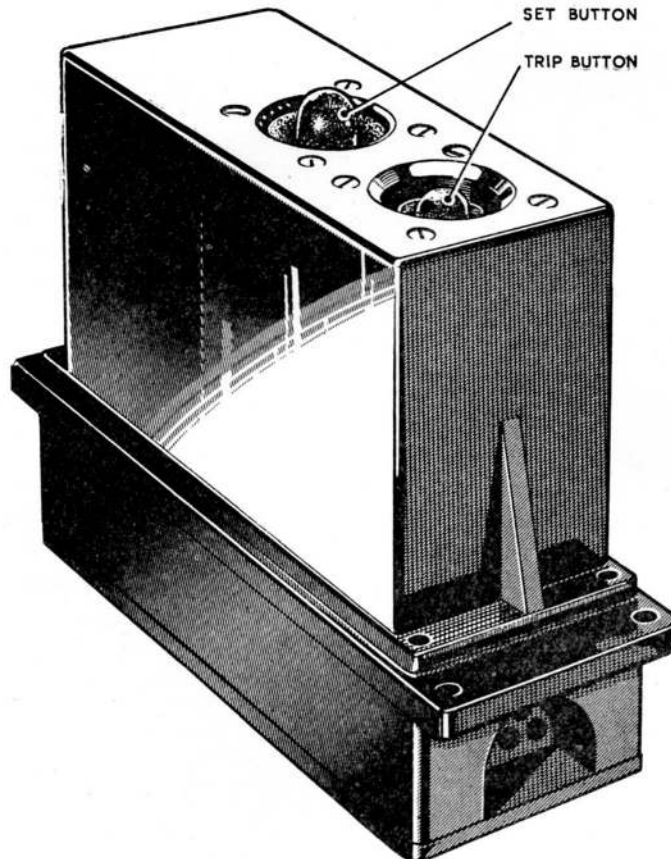

Fig. 1. External view of switch
2. The Type A reset relay switch (fig. 1) is mounted on a moulded base and is contained within a moulded cover. The terminals of the unit are contained within a recess in the base. The top and base covers seat on rubber seals. The top and base covers seat on rubber seals. The press-buttons for manual operation are covered by rubber hoods, which together with the cover seals render the unit waterproof.